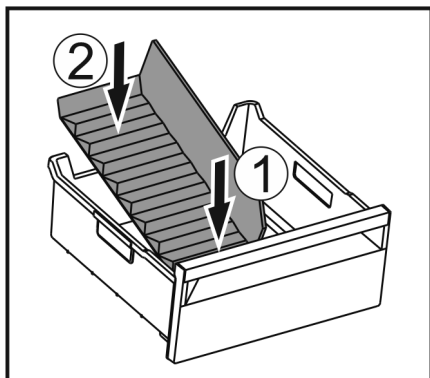

Fig. 172
- Insert the front part of the ice compartment divider. Fig. 172 (1)
- Lower the rear part of the ice compartment divider to the drawer bottom. Fig. 172 (2)